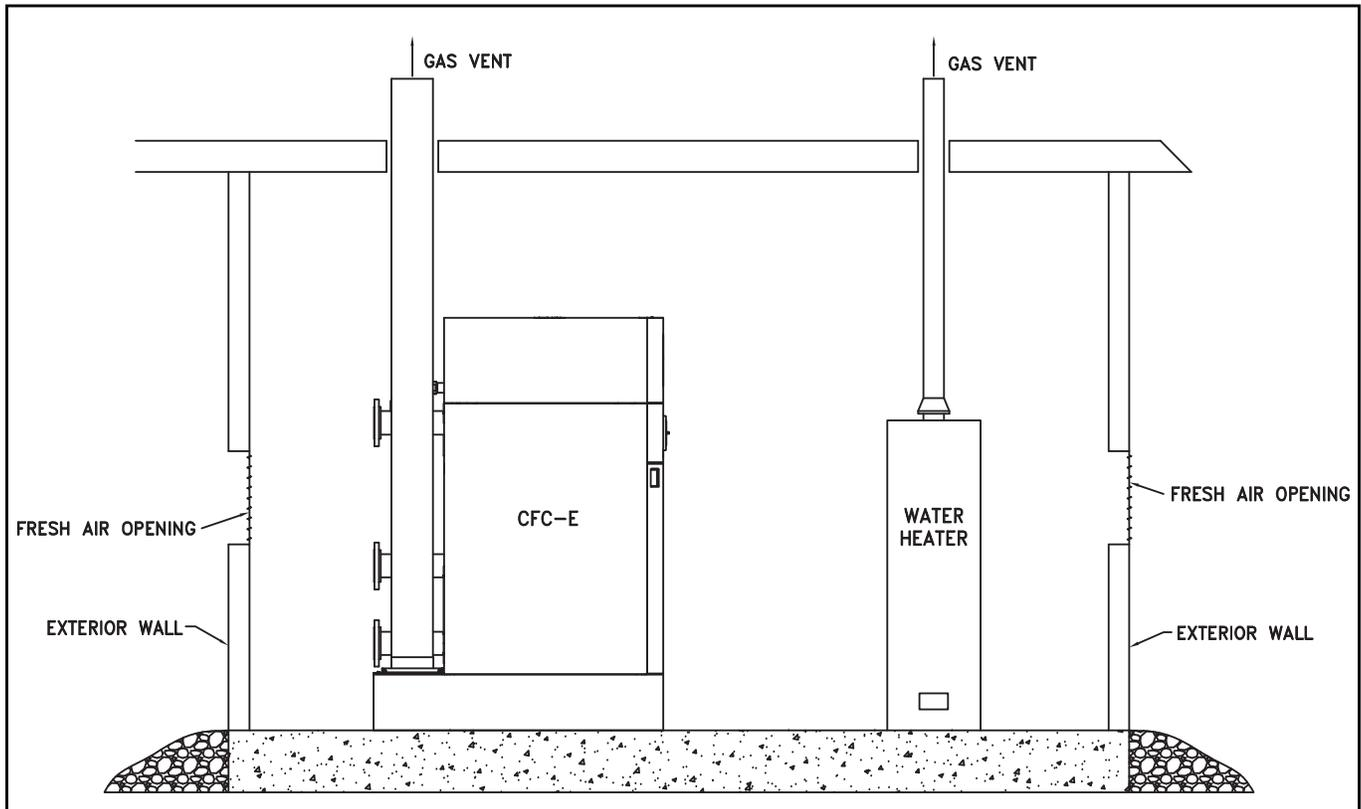

Figure 30. Two Opening Engineered Method
- A. Two permanent air supply openings in the outer walls of the boiler room are recommended. Locate one at each end of the boiler room, preferably below a height of 7 feet. This allows air to sweep the length of the boiler. See Figure 30.